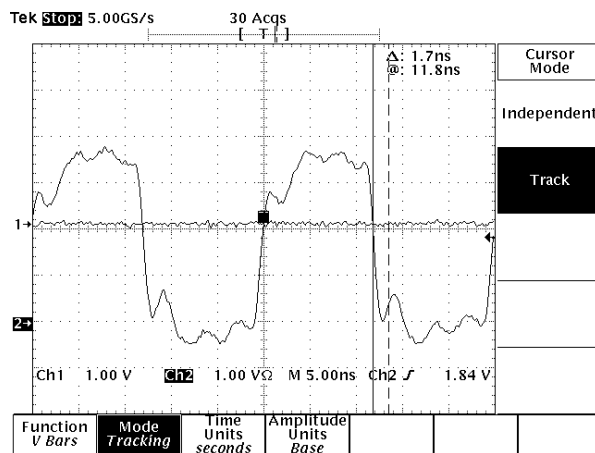

Figure 9: w/o ext.;  $68\ \Omega$ ; h.s.p.; w/o stub
- Like the latter measure, but with a better resolution (high speed probe), depicted in figure 9.